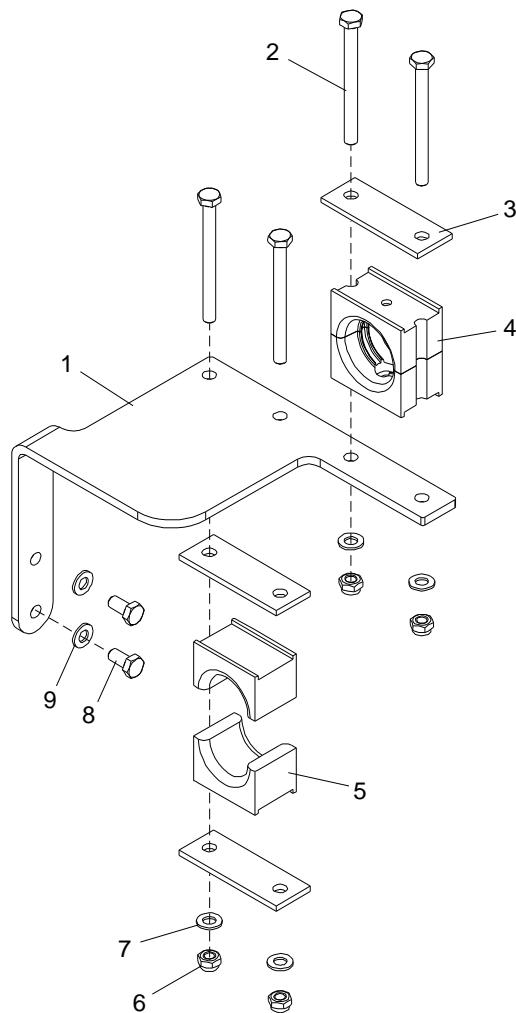

Figure 7-10: Replacement of Cable Support (Left Illustrated)
1. Loosen the cabling from the cable support by removing the screws (2), nuts (6), washers (7), plates (3) and clamps (4) and (5). See Figure 7-10.
2. Remove the bracket (1) from the coupler by removing the screws (8) and washers (9).
2. Fit the bracket (1) to the coupler and mount the washers (9) and screws (2). See Figure 7-10.
3. Fit the cabling to the clamps (4) and (5). Fit the clamps (4) and (5) and plates (3) to the bracket (1) and mount the screws (2), washers (7) and nuts (5).